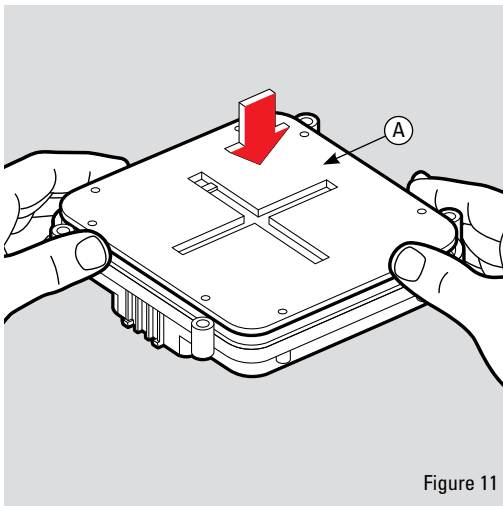

Figure 11
Keeping front cover upside down, insert the MASTERCELL™ board and back cover (A) as shown in figure 11 by aligning the input pins with the correct holes in the front cover. **DO NOT** flip over the front cover as this will cause the buttons to fall out.